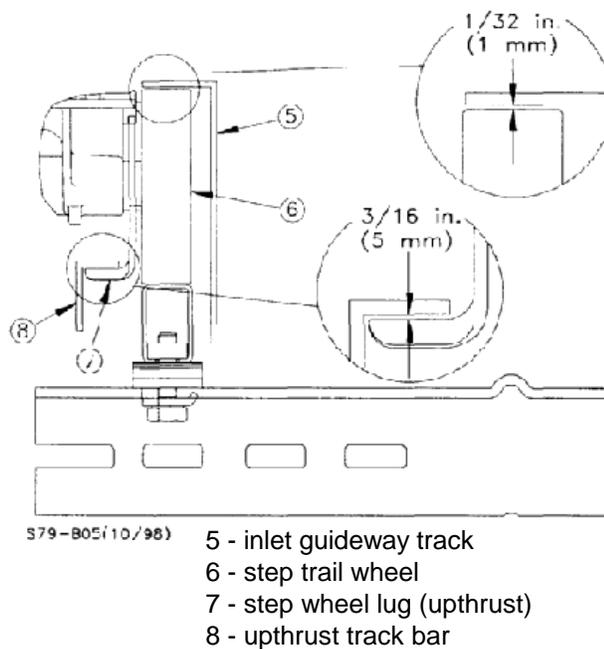

Figure 8-10j O&K Step Chain Wheel
- With your weight on the step, use the adjusting nuts to attain LH and RH clearance of the step counter guide lug against the upthrust to $\frac{3}{16}$ inch (figure 8-10j p13).
- Set the **switch plunger against the actuator bar** to $\frac{1}{32}$ in. (figure 8-10j p13). The switch shall actuate after the step lift monitor is lifted to $\frac{15}{64}$ inch. The unit must not start until reset switch is reset.